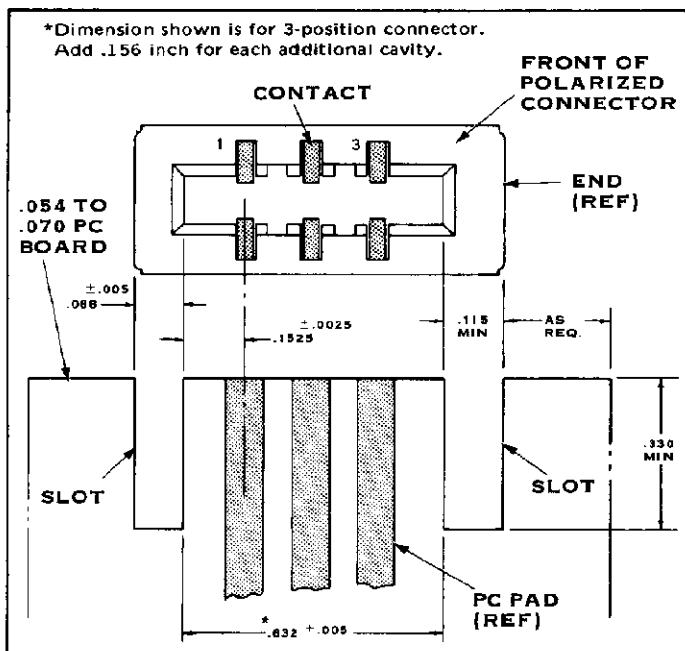

FIGURE 2
**NOTE** *The Ends of the Polarized Connectors vary in thickness. When this polarized feature is used, two Slots must be cut in the applicable PC Board as shown in Figure 2.*
**NOTE** *Refer to Figure 2 for the Cutout required for Polarized Connectors.*